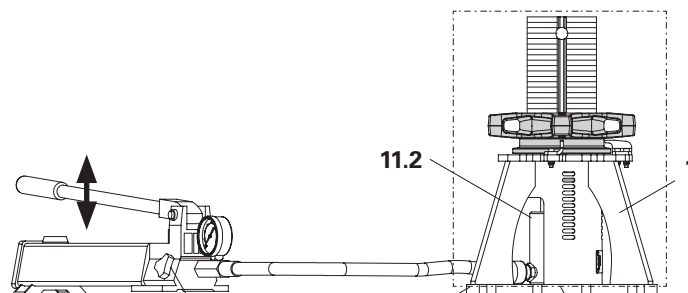

Fig. A5.06
1. Insert the hydraulic cylinder (11.2) into lowering jack (1).
2. Operate the pump lever until the cylinder is resting on the red pressure piece (1.1) of the spindle tube. (Fig. A5.06)